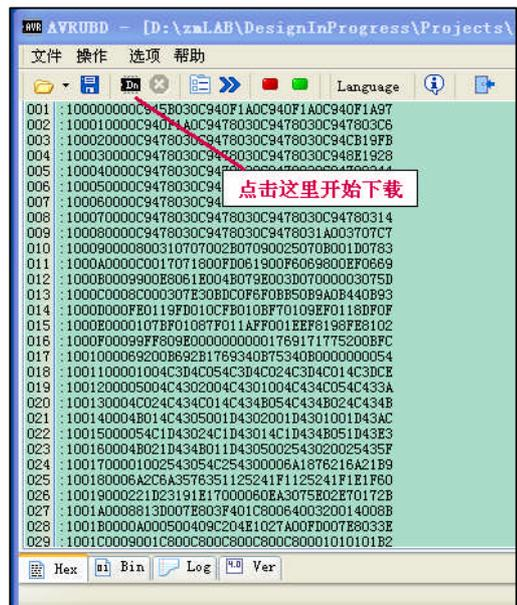

Fig. 7
- 8) Keep scope power down off. Click on “Dn” icon (see Fig. 7. Alternatively you can click on “Operate – Download” from the main menu) and power up the scope right after. You will see AVRUBD is trying to communicate with the scope board. If handshake failed you would see screen like that of Fig. 8.